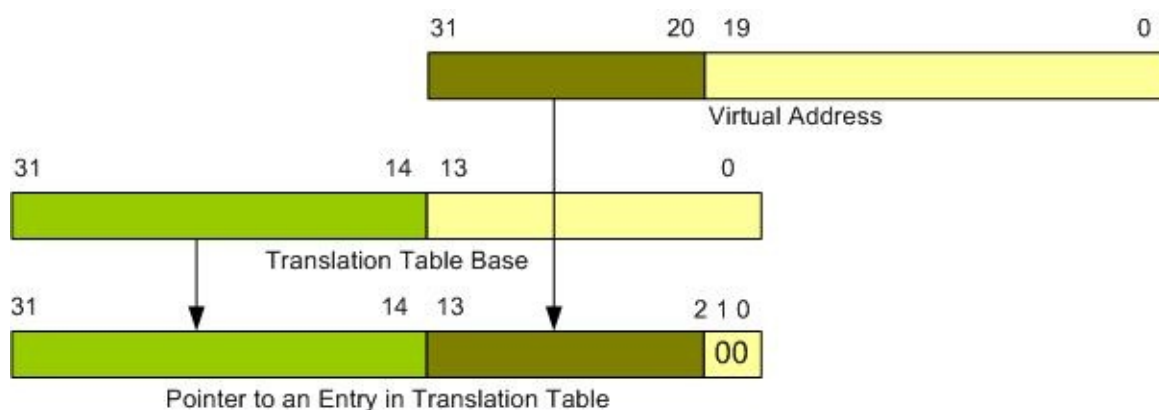

Figure 15-2: Accessing Translation Table
- a) The upper 12 bits (A31–A20) are used for an entry into what is called a **translation table** or page directory. There is a 32-bit register inside the ARM MMU that holds this physical base address of the translation table. Since the upper 12 bits of the virtual address point to the entry in the translation table, there can be 4,096 entries ($2^{12} = 4096$). Each entry in the translation table is 4 bytes and the pointer to each entry should be word aligned. Note that the two LSB bits of the pointer to an entry in the translation table are zeroes. Figure 15-2 shows how bits A31 to A20 of virtual address and bits 31 to 14 of Translation Table Base Register are concatenated to produce a pointer to an entry in the translation table.